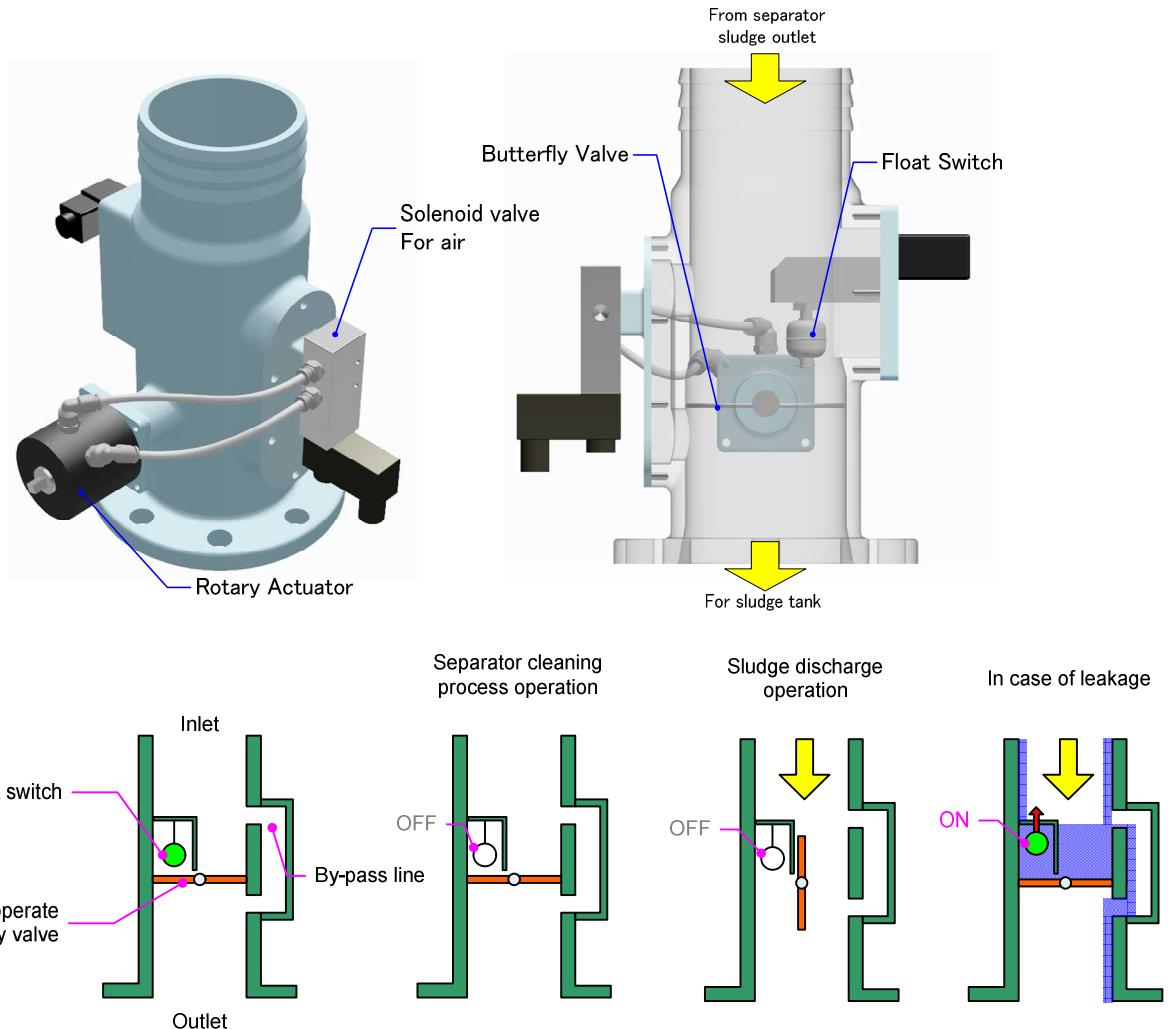

Figure 2-3 FLD (Float type Leakage Detector)
- ◆ The “Float type Leakage Detector FLD” is included as the leak detector. (See **Figure 2-3**). The back pressure of discharge side is not allowed to high value, the EGR Drain water leakage has to be detected directly at discharge side by FLD.
- ◆ Refer to **Figure 2-3** and the explanation regarding the separation theory.